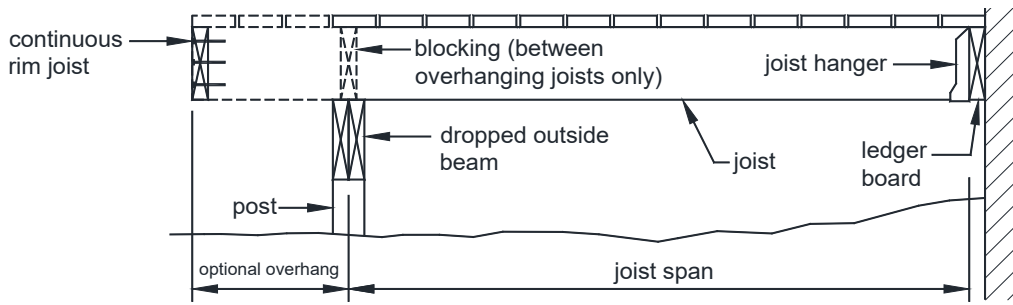

FIGURE 4: SINGLE SPAN DECK - JOISTS ATTACHED AT HOUSE WITH DROPPED BEAM
- Single span decks are framed with joists that have one span between supports (not including overhang) as shown in FIGURES 4 and 5. Multi-span decks have joists with more than one span which bear on multiple beams as shown in FIGURES 6 and 7.
- Attach a continuous rim joist or blocking at the joist ends as shown in FIGURES 4, 6 and 8. Attach a rim joist to the end of each joist with (3)10d nails or (3)#10x3-inch wood screws.
- Dropped beams have joists bearing above; flush beams have joists with hangers bearing on its sides; see FIGURES 4 through 8 and 13.